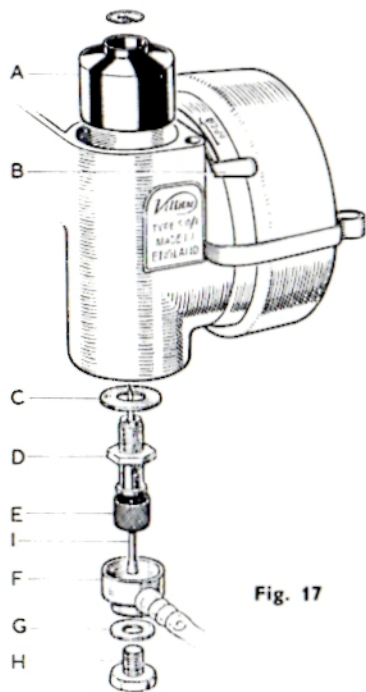

Fig. 17
1. Petrol tank empty or fuel gauze filter (E, Fig. 17), at base of carburetter, blocked. *Remedies* — Fill tank. With petrol turned off, remove and clean fuel filter. (See page 28 - To locate fuel gauze filter).
Undo the banjo union bolt (H, Fig. 17) located under the carburettor and remove fibre washer, banjo union (F, Fig. 17), and fuel gauze filter. (E, Fig. 17).